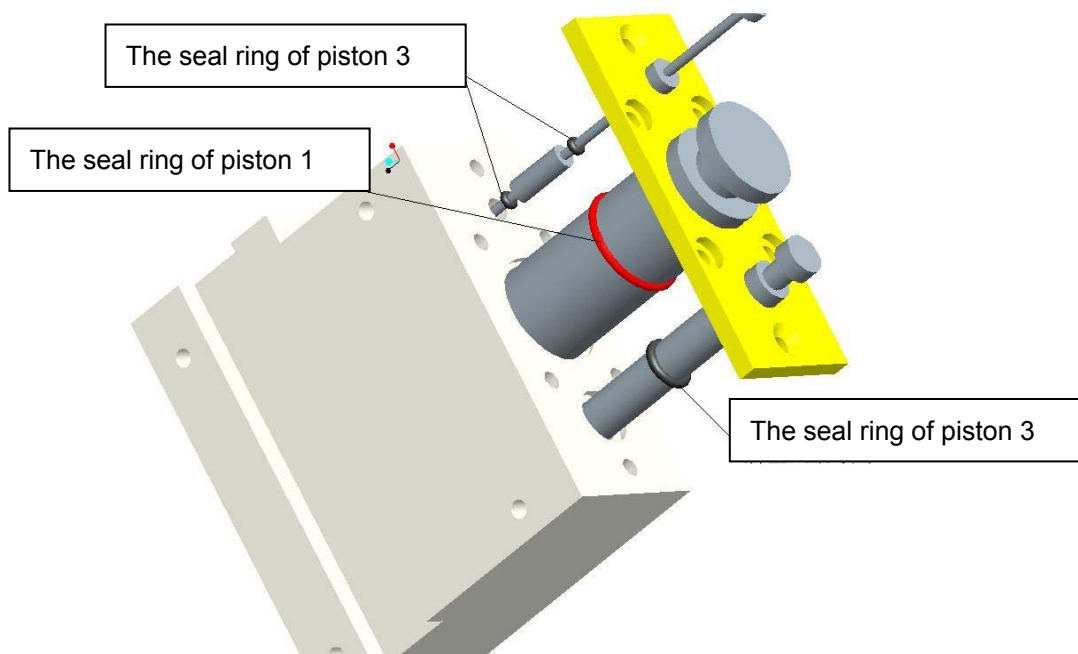

Figure 4-2-5
3) Take out the worn O-ring from the piston, and replace the corresponding new O-ring, coat the instrument specified lubrication sealed grease outside the O-ring, and reassemble it with the reverse order. As shown in Figure 4-2-5: